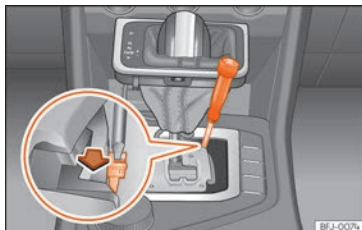

Fig. 248 Gear selector lever: manual release from the parking position.
- Using the flat part of a screwdriver, press the yellow tab sideways and keep it pressed down **»»** **Fig. 248**.